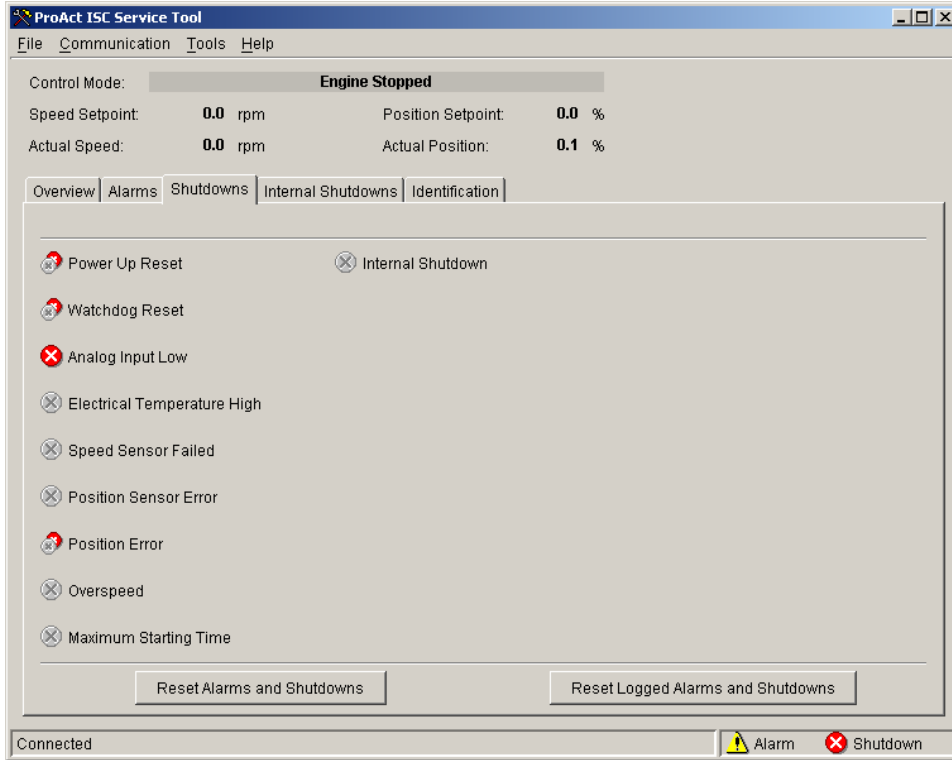

Figure 4-5. Service Tool—Shuttdowns Tab
- Shutdowns, (see Figure 4-5)
To monitor the shutdown conditions, go to the Shutdowns and the Internal Shutdowns pages (Figures 4-5 and 4-6) on the main window. The values displayed on the Shutdowns screen dynamically change with the fault configuration.